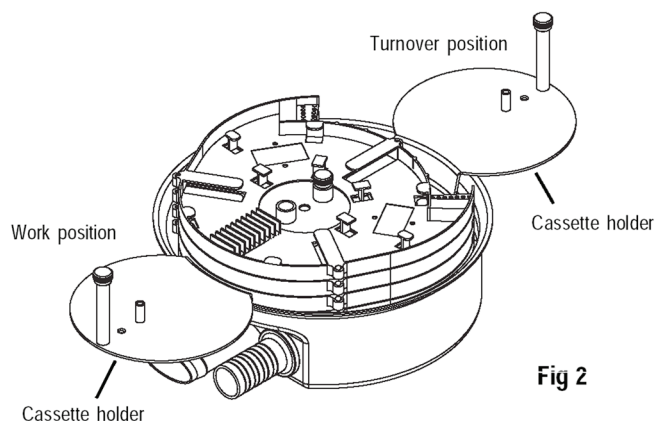

Fig 2
- 2.6 Montera kassetthållarna på underdelens rundade kant enligt (fig. 2).
2.8 Mount the cassette holder on the box: Dismount the support sleeve and o-ring. Mount the cassette holders on the rounded edge of the bottom part, according to (fig. 2).